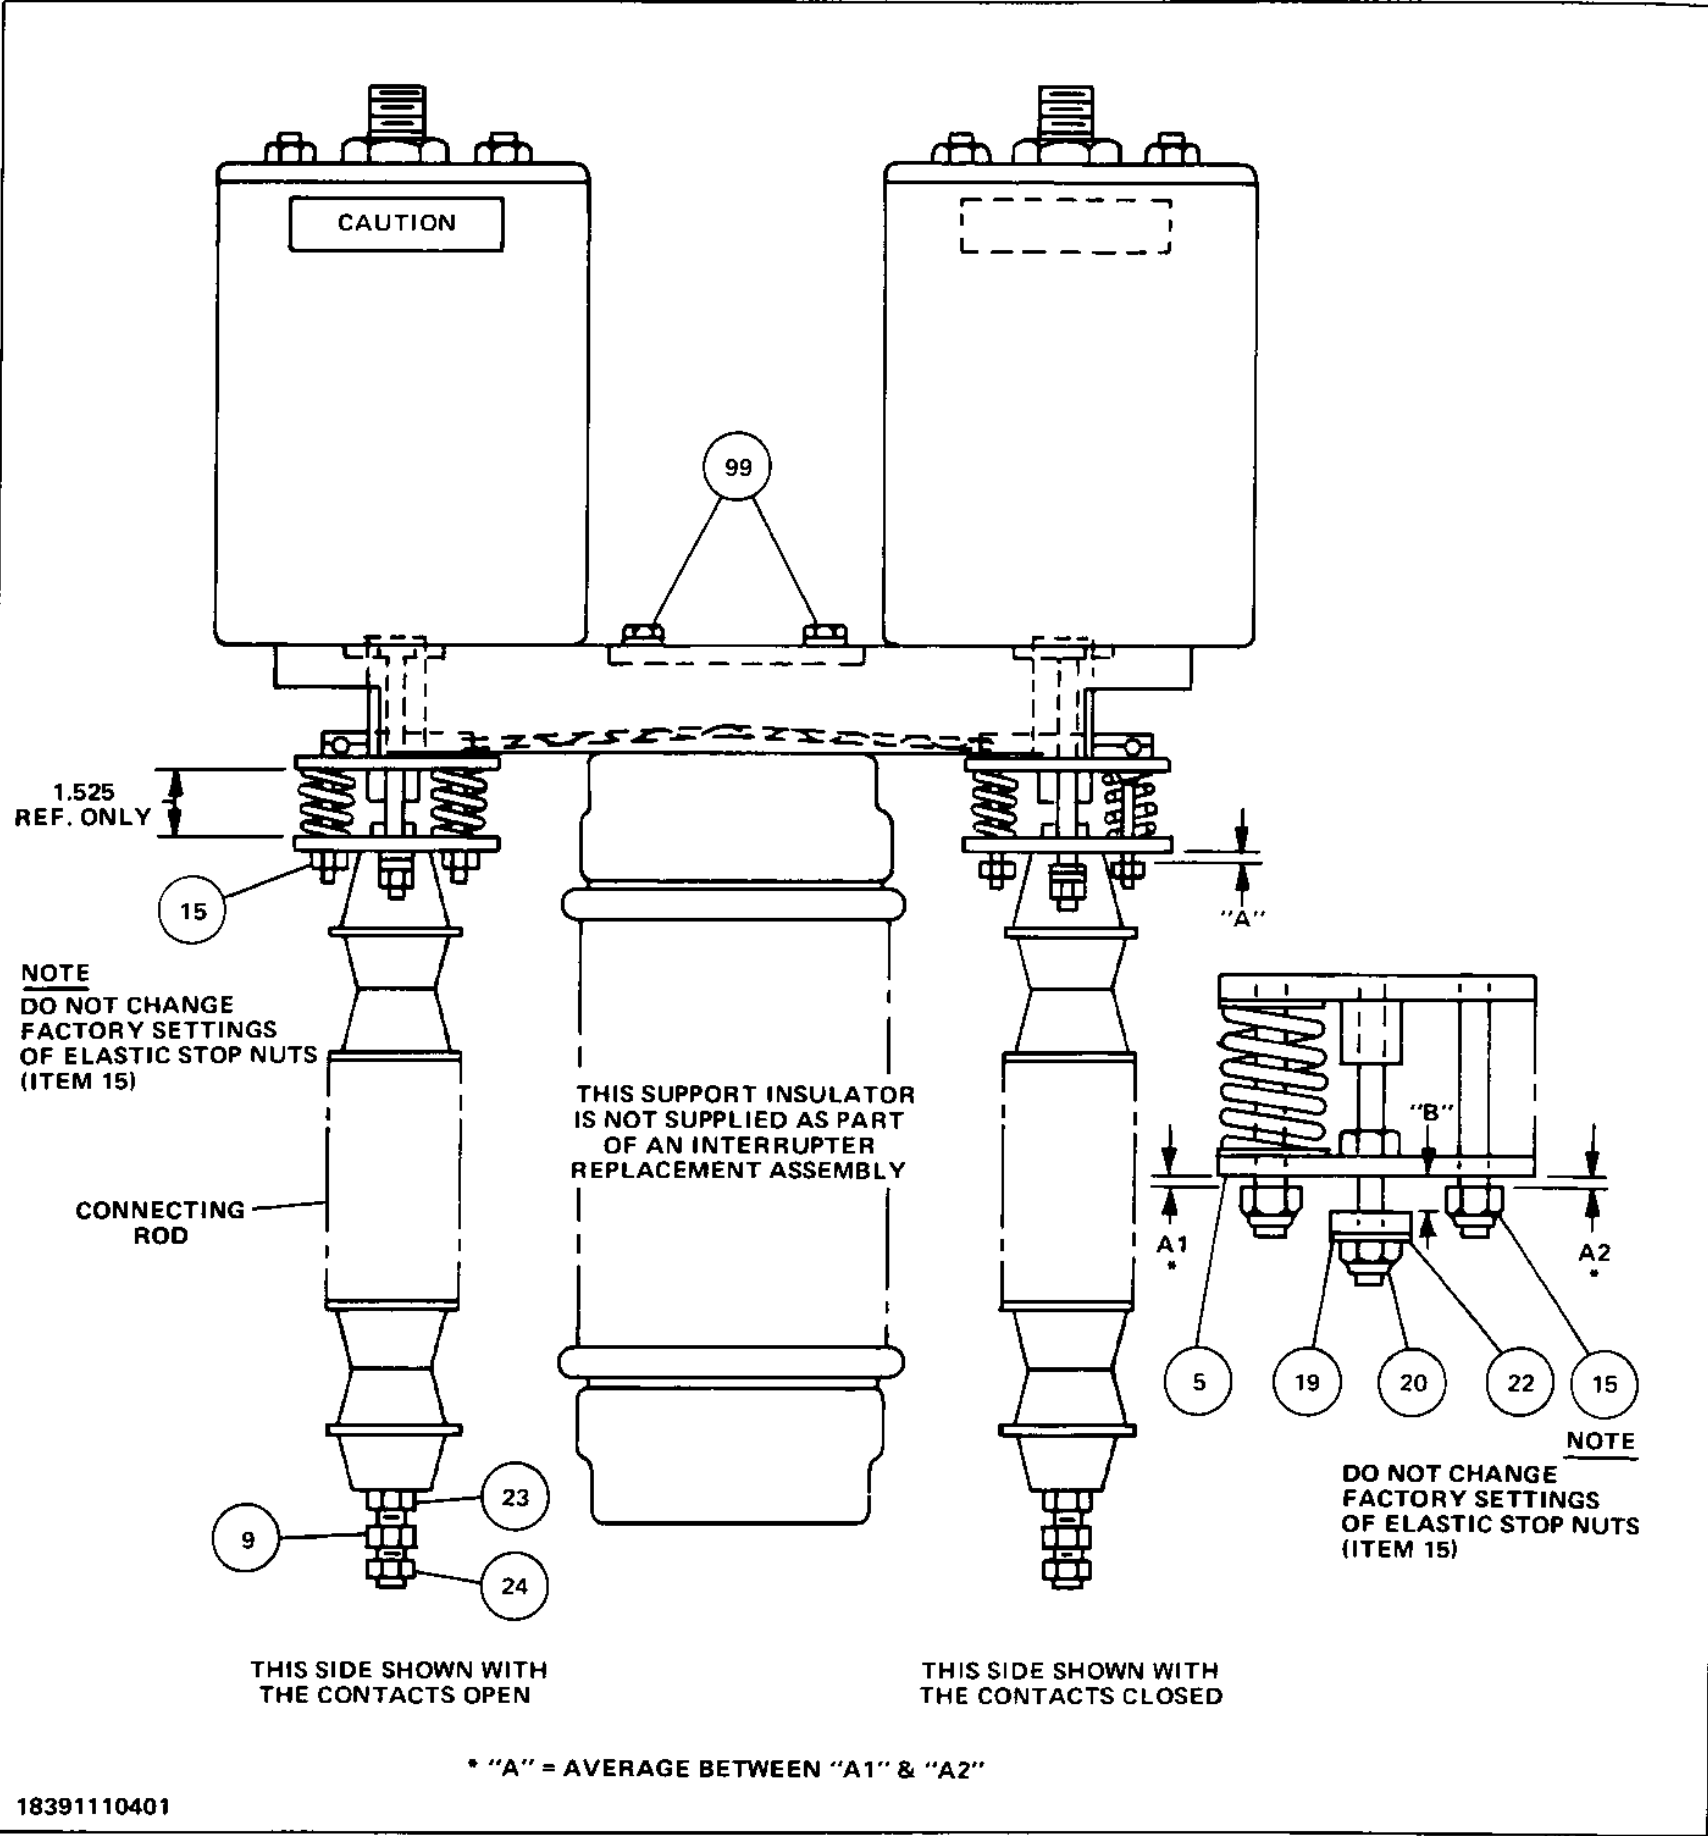
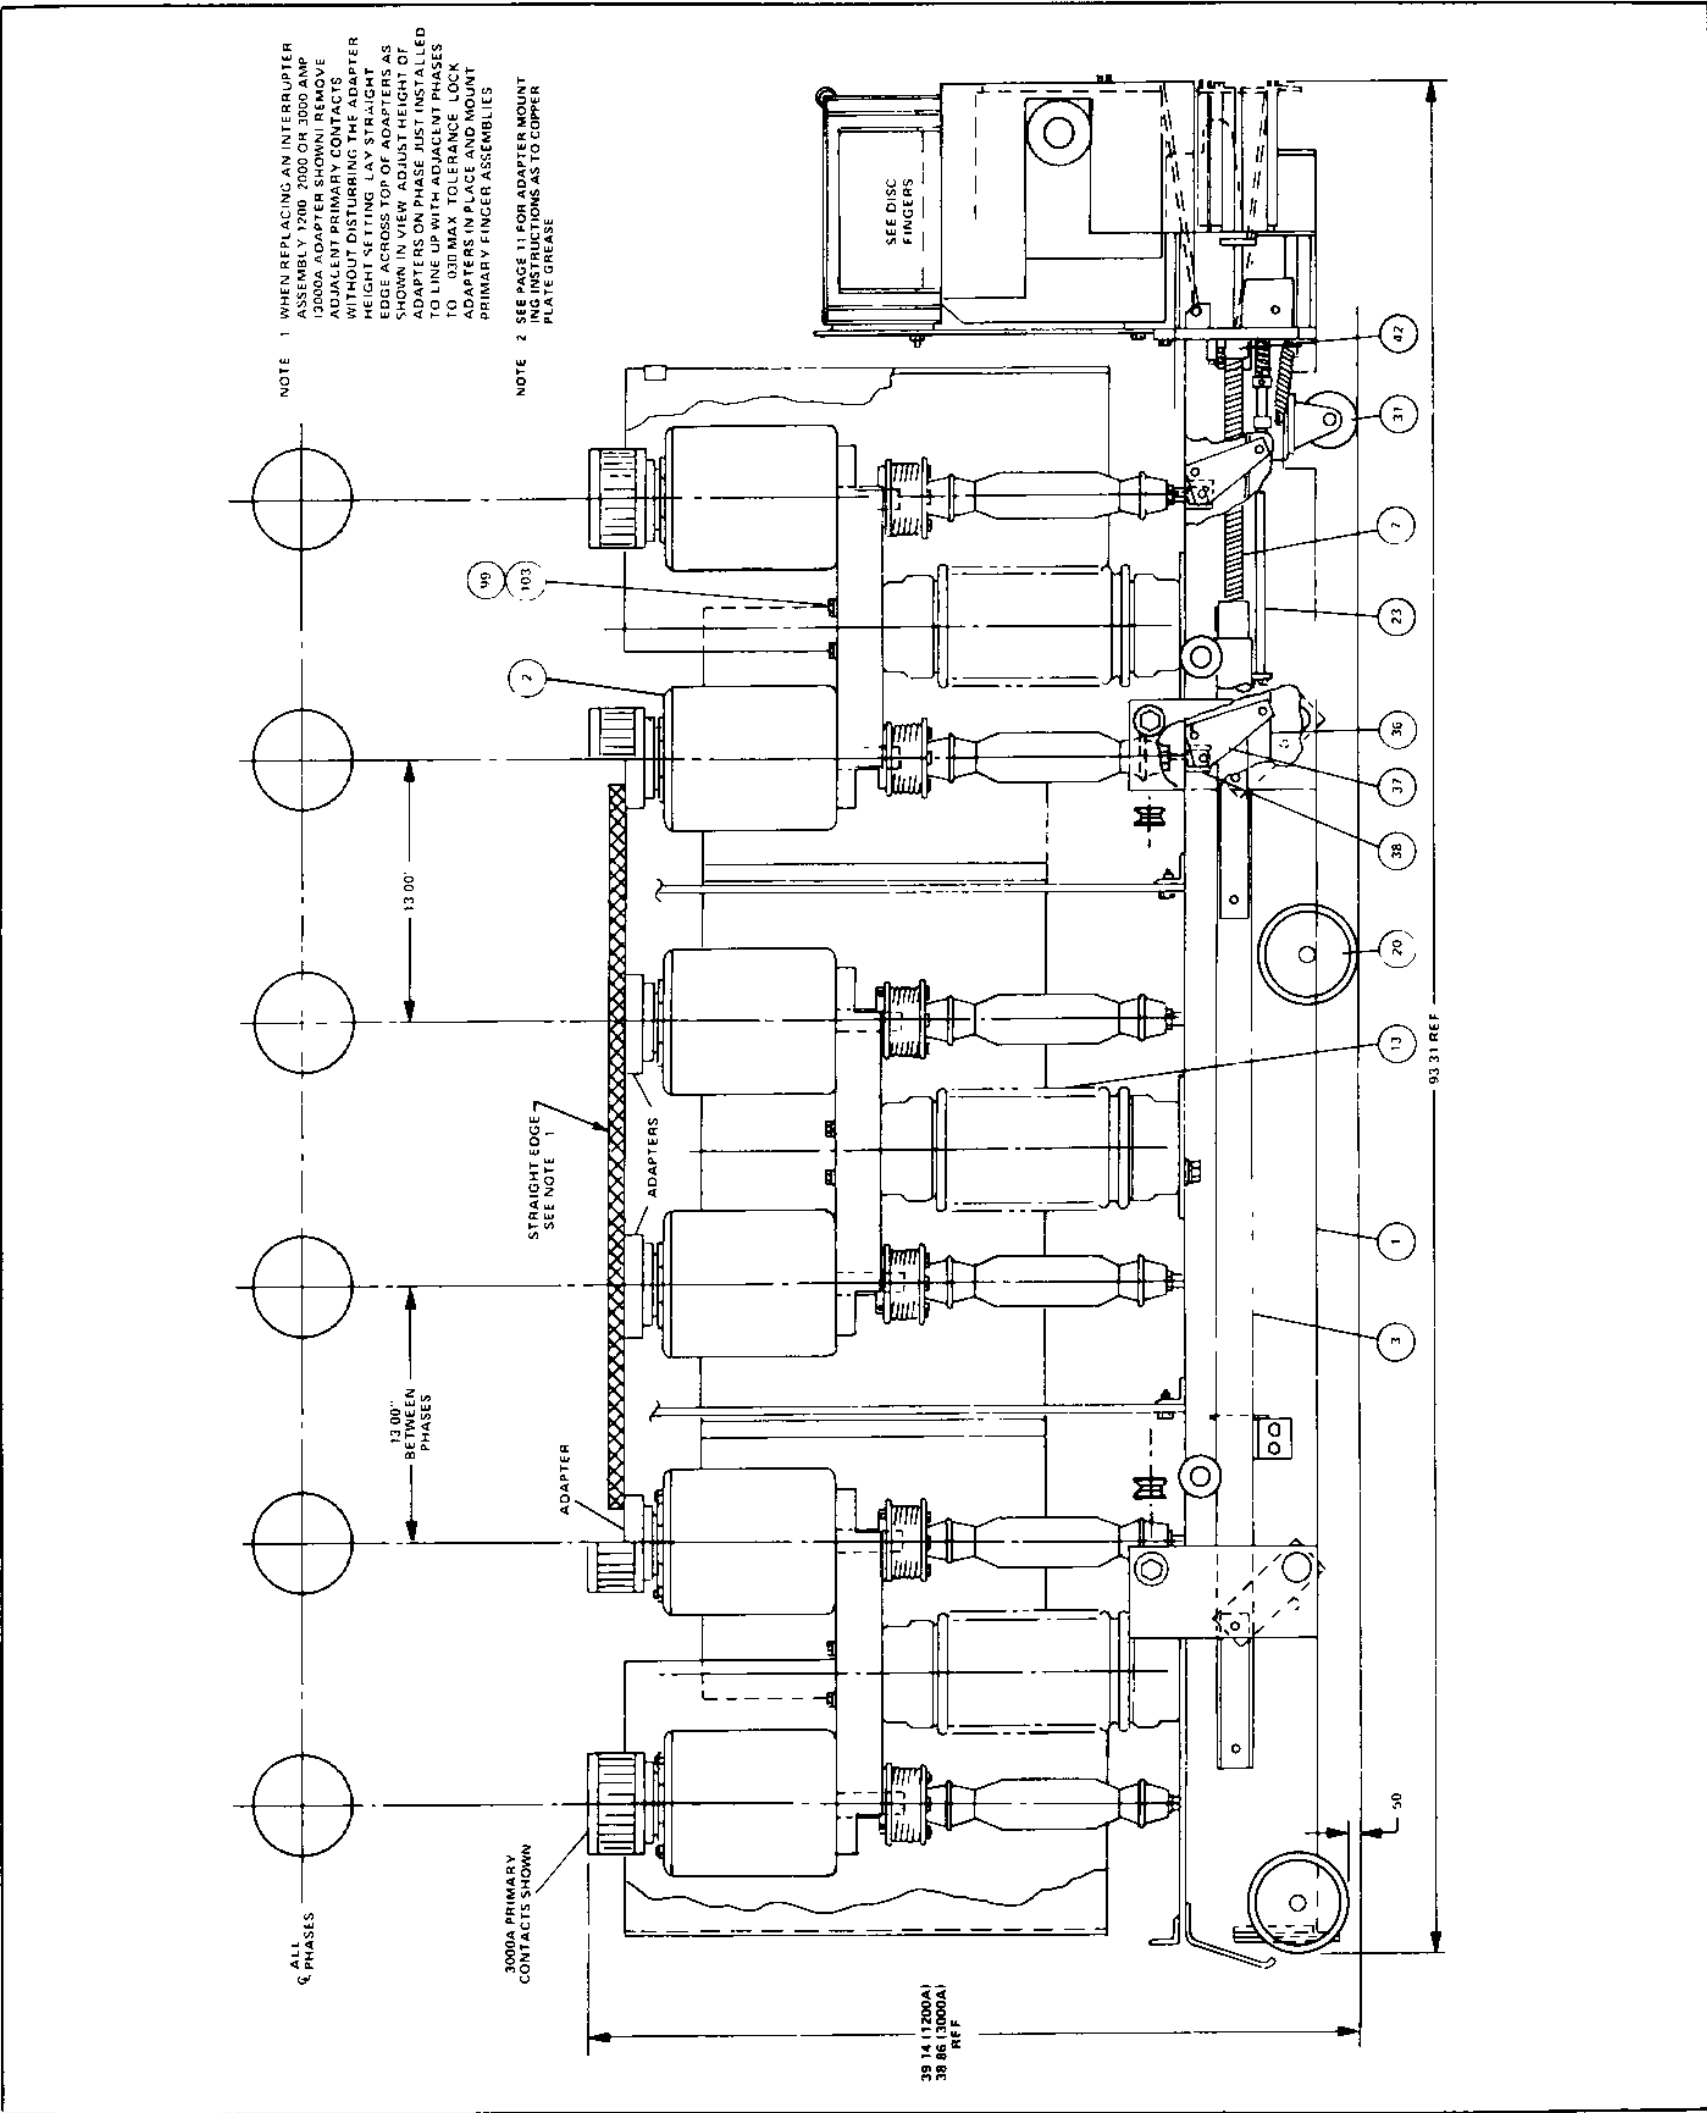

Figure 48—Vacuum Interrupter Assembly—One pole
Figure 49–Side View–34.5 kV Vacuum Breaker (Shown with Contacts Open)
A visual check of distances "A1" & "A2" (Fig. 48) with breaker closed will indicate the contact erosion. When distance "A" approaches .030 to .015 inches, the interrupter assembly should be replaced. This distance should be established by measuring both "A1" & "A2" then take an average. This will compensate for any minor tilt in the retaining plate (lt. 5). The best measure of erosion rates is to look at the change in the "A" dimension over a series of time-separated intervals. Note: If at any given point the "A" dimension seems to have grown, it may be due to an irregular contact surface. An open-close operation and remeasurement will probably give a different dimension. **Intermediate adjustment is not recommended.**
Mounting and adjusting hardware should be checked for tightness. Elastic stop nuts (15, Fig. 48) should not be turned, as indicated by the "Note".
Replacement interrupters are furnished only as complete assemblies as shown in Fig. 48. This eliminates the need for special field assembly fixtures and avoids the risk of inadvertent damage to the vacuum interrupter bellows by field assembly.
Remove only one complete phase assembly at a time. This leaves the two remaining phases intact and they will serve as the reference required to realign the one phase being replaced. See Fig. 49.
5. Loosen locknuts (23 R.H. & 24 L.H., Fig. 48).
6. Loosen the four hex head cap screws (99, Fig. 49) alternating diagonally so as to relax spring pressure evenly as screws are loosened.
7. With second person holding the interrupter assembly steady, back out both adjusting screws (9, Fig. 48) simultaneously by turning clockwise as viewed from top of breaker. This will release adjusting screws from base of connecting rod (Fig. 48) and pivot block (38, Fig. 49). The complete interrupter assembly is now free and can be carefully set aside. Replace the adjusting screws in the pivot block (fine thread end) about two or three turns counterclockwise.
8. To replace this assembly, have second person hold the assembly in position so that adjusting screw (9, Fig. 48) can be started into the base of the insulator simultaneously by turning counterclockwise. The adjusting screws should be turned evenly so as to maintain approximately the same penetration into both pivot blocks as well as into the insulators. This will aid in making final gap adjustment, "A", Fig. 48.
9. When adjusting screws have been well started into pivot blocks and insulators, replace the four cap screws and lockwashers (99 & 103, Fig. 49). Making sure that assembly is located on 13 inch center line (Fig. 49) and in line with the other disconnects (Fig. 49). Tighten to 96-136 foot pounds.
10. Turn adjusting screw counterclockwise until either the "A1" or "A2" dimension (Fig. 48) is approximately 1/8 inch. It is not necessary to measure this dimension on both sides of a single tube assembly as there may be a slight difference between them. Do not change the factory settings of the elastic stop nuts (15, Fig. 48). All adjusting to get the 1/8 inch dimension on either side of a single interrupter tube must be done with adjusting screw (9, Fig. 48) only. Now repeat this procedure on the other interrupter of this phase. After the 1/8 inch dimension is obtained, hold adjusting screw tight and secure firmly with the upper and lower locknuts (23 & 24, Fig. 48).